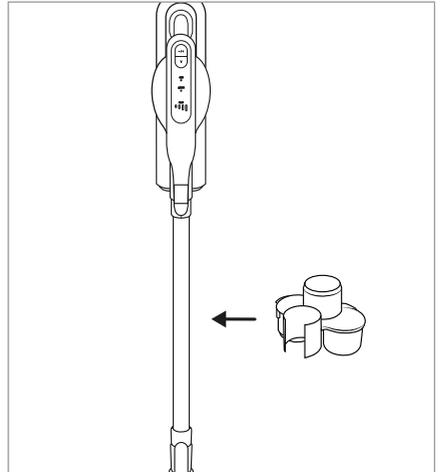

Fig. 16
- ◆ Attach the accessories holder 17 to the suction pipe 23 (see Figure 16).